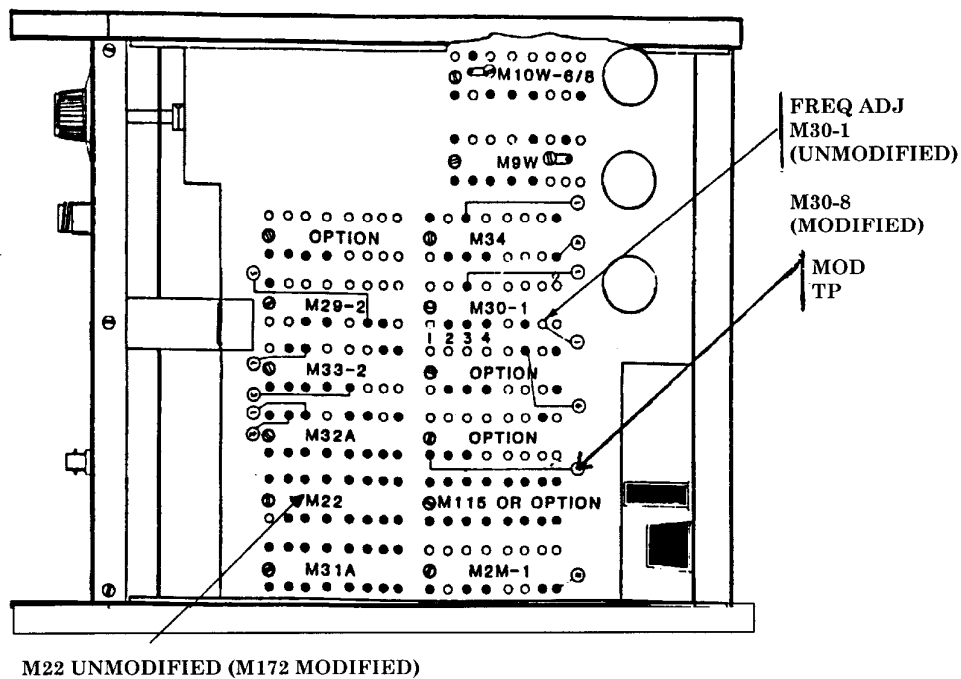

Figure 1. Test instrument - bottom view.
(1) Position TI controls as listed in (a) through (d) below:
(2) Set **FREQUENCY** switches to indicate **500.000 MHz**.
(3) Adjust **FREQ ADJ M30-1(UNMODIFIED)** (fig. 1) trimmer ccw for minimum frequency indication on frequency counter, then adjust trimmer cw until frequency counter indicates 500.000 MHz (R).
(5) Connect multimeter to MOD TP (fig. 1) and ground.
(7) Set **MODULATION FM/AM** slide control to **0**. The multimeter should indicate $0\text{ V} \pm 20\text{ mV}$ dc.
(8) Disconnect the multimeter from MOD TP (fig. 1) and ground.